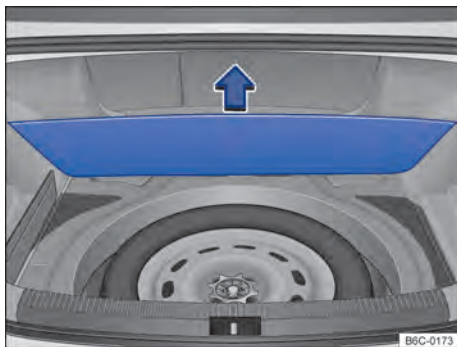

Fig. 163 On the luggage compartment, under the floor lining: spare wheel and vehicle toolkit.
The vehicle toolkit and spare wheel are located in the luggage compartment, under the floor covering → Fig. 163.
- Lift the floor lining of the luggage compartment → Fig. 163.